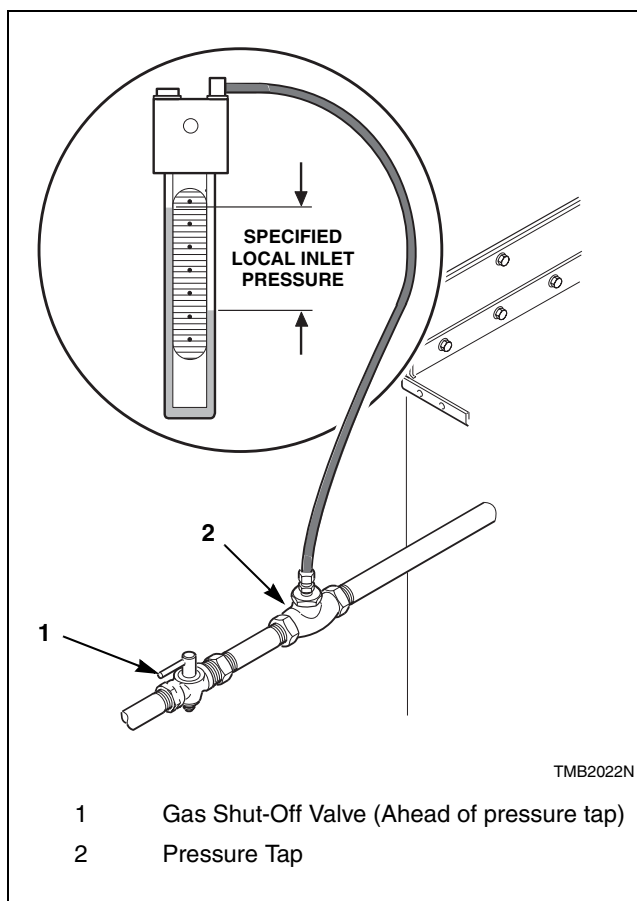

Figure 2
- a. Disconnect electrical power from tumbler. Close gas shut-off valve to tumbler. Refer to *Figure 2*.
1. Disconnect electrical power from tumbler. Close gas shut-off valve to tumbler. Refer to *Figure 2*.